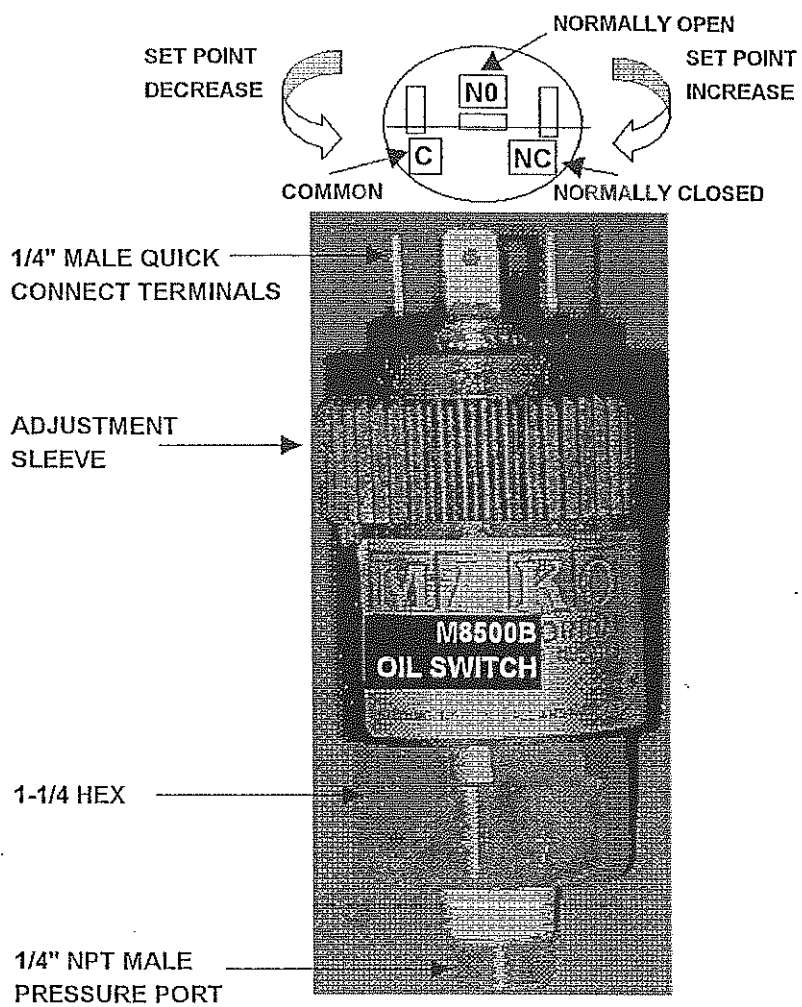

FIGURE 9-2 BARKSDALE OIL SWITCH
3. Slowly turn the switch adjustment sleeve shown in Figure 9-2 clockwise one quarter of a turn at a time. Prevent the switch body from rotating using a 1 1/4" end wrench.
CAUTION: IF IT IS NECESSARY TO REMOVE THE ELECTRICAL LEADS DURING THE ADJUSTMENT PROCESS BE SURE THEY ARE REINSTALLED CORRECTLY. THE ELECTRICAL CONNECTORS ARE CLEARLY MARKED ON EACH SWITCH AS SHOWN IN FIGURE 9-2.